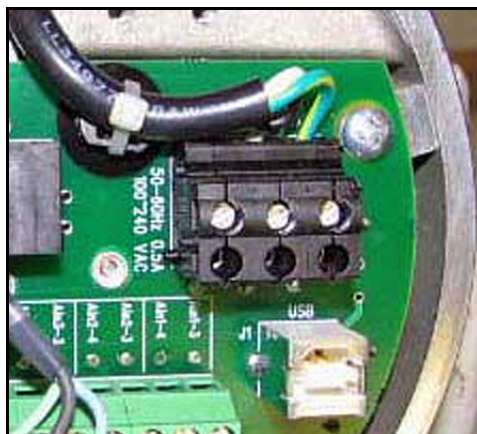

Figure 26: Power Terminal Block
- Run the AC power connections to the Power Terminal Block shown in *Figure 26* below. It is recommended to use 12-18 AWG (3.3 - 0.82 mm²) power wiring.